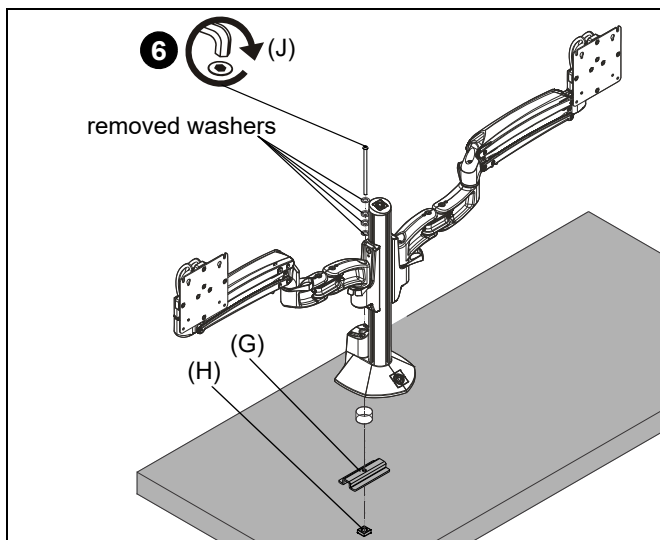

Figure 6
5. Place mount on desk over grommet hole. (See Figure 6)
6. Use 5/16-18 x 6" button head cap screw (J), removed washers, clamp bracket (G) and 5/16-18" square nut (H) to secure mount to desk. (See Figure 6)